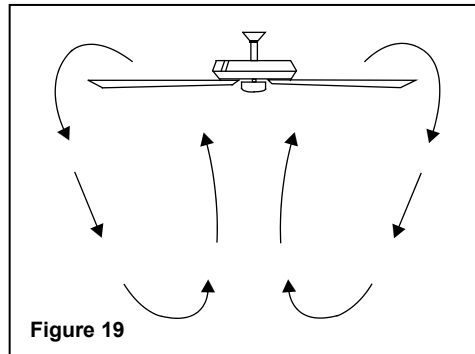

Figure 19
**Cool weather - (Reverse)** An upward airflow moves warm air off the ceiling area as shown in Fig. 19. This allows you to set your heating unit on a cooler setting without affecting your comfort.